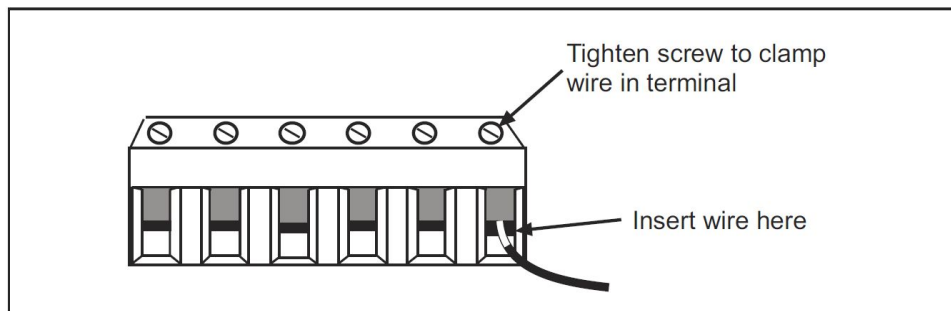

Figure 2-2. Correct Way to Attach Wires to Terminal Block Connectors
1. Find the correct terminal and loosen the screw over it by turning the screw counterclockwise (see Figure 2-2).